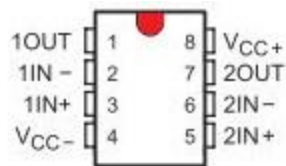

Figure 6a: Correct orientation of op amp
- Find your op amp and examine it to locate the semi-circular notch (see Figure 6a) that is cut into the face of it. The notch denotes the top of the op amp, giving you an orientation point